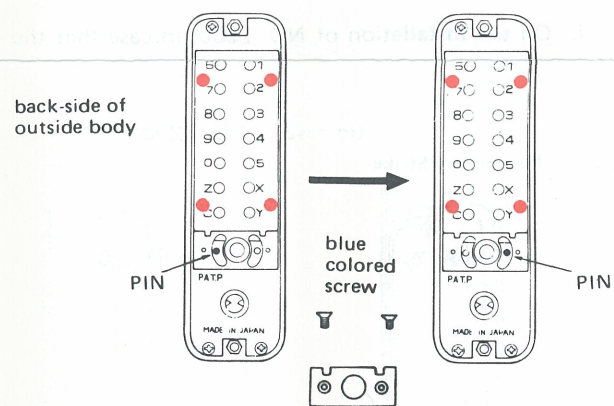

FIG 2
- After pulling up the PIN by the supplied pincette, insert it into the right hole sufficiently. (as Fig. 2.)